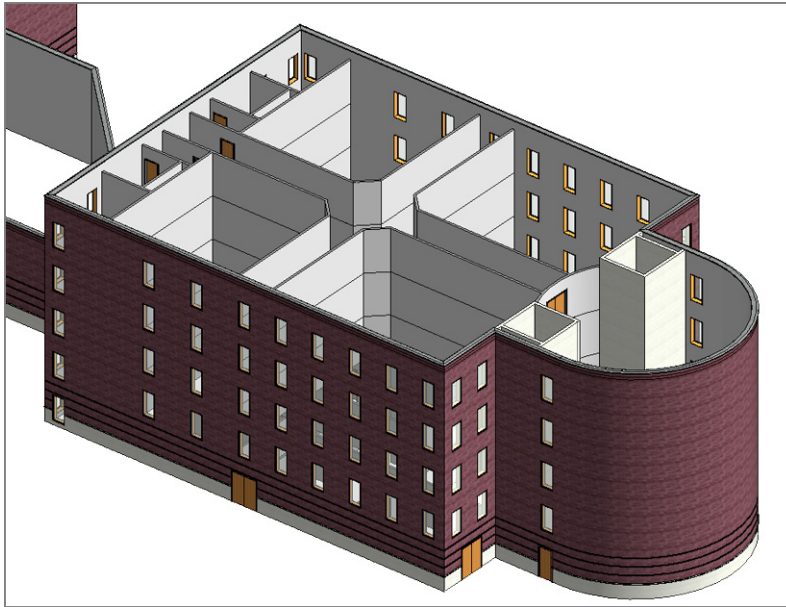

FIGURE 4.56: Using Copy/Paste, align the windows to the higher floors. This will influence your floor layout for each level.
8. Select the windows on Level 2, go to a 3D view and, using Copy and Paste ➤ Aligned to Selected Levels, align them all the way to Level 5. This way, you know your windows are aligned, and you can follow this procedure in your room layout for each floor (see Figure 4.56).